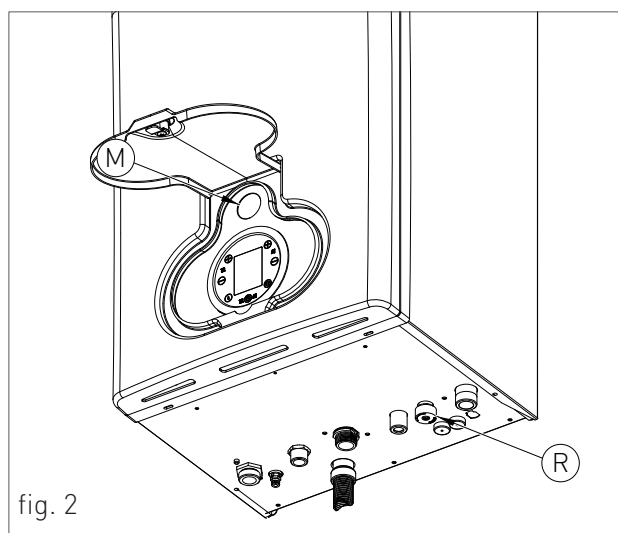
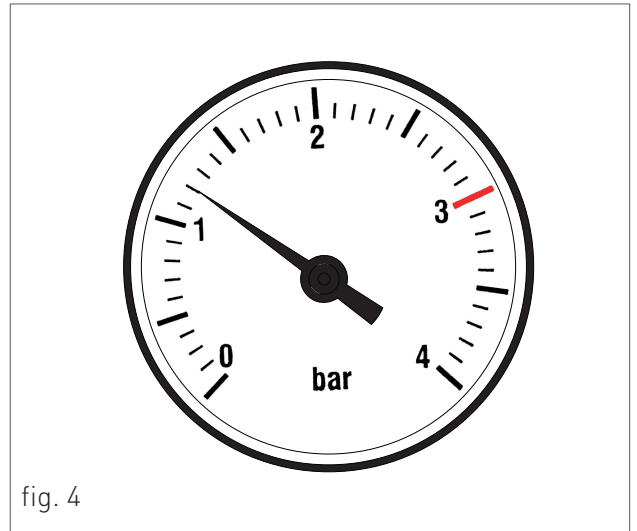

fig. 2
fig. 4
3. open the filling tap "R" (fig. 2);
5. use pressure gauge "M" (fig. 2) to make sure that the system pressure reaches 1.2 bar (fig. 4);
6. after performing this operation, make sure that the filling tap "R" (fig. 2) is properly closed.
8. If after performing these operations, there is a decrease of the water pressure inside the system, open the filling tap "R" once again, until the pressure gauge indicates the value of 1.2 bar (fig. 4).